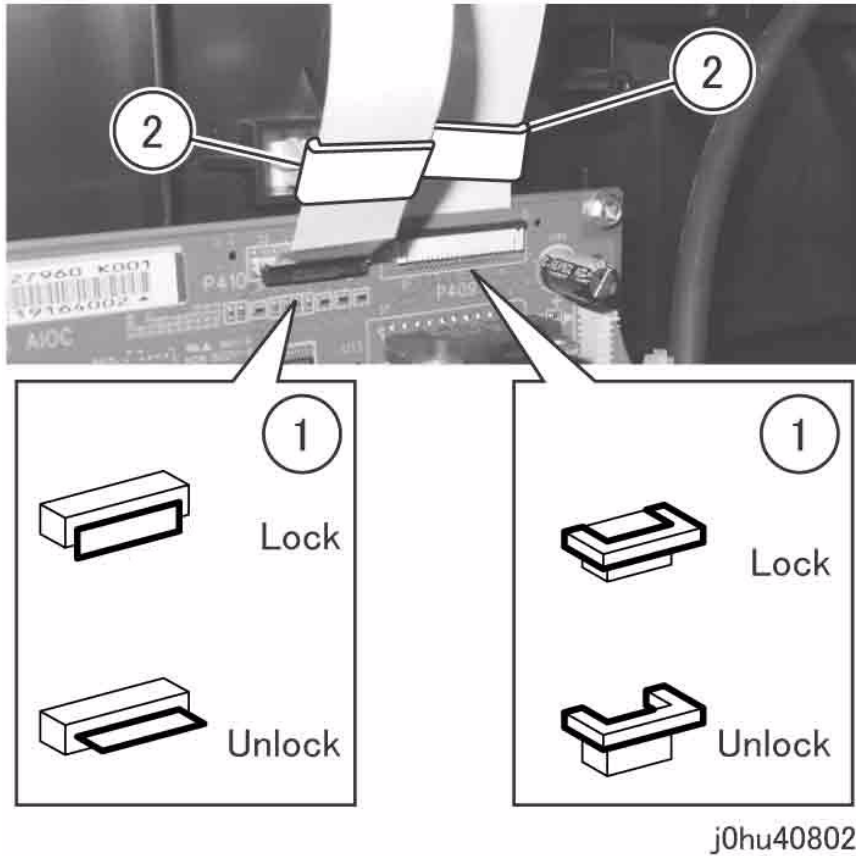

Figure 2 Disconnect Print Cables
- Disconnect the Flexible Print Cables (2) from the SLCC PWB (Figure 2).
- (1) Disconnect the Flexible Print Cables (2).
- (2) Remove the Cores (2).